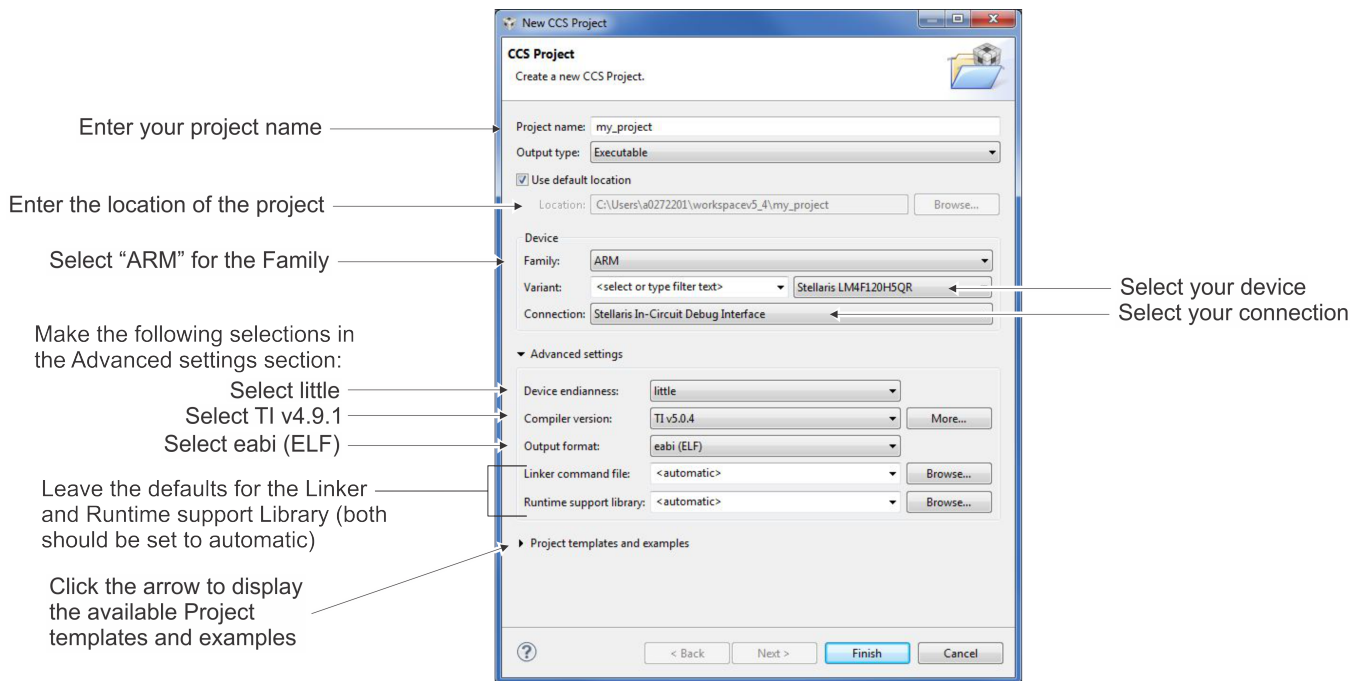

Figure 6.
2. The *New CCS Project* window appears which allows the creation of a new CCS project. Update the following fields (shown in Figure 6): Project name, Location, Family, Variant (device), Connection, Device endianness, Compiler version, and Output format. Leave the Linker command file and Runtime support library with their default settings (<automatic>).